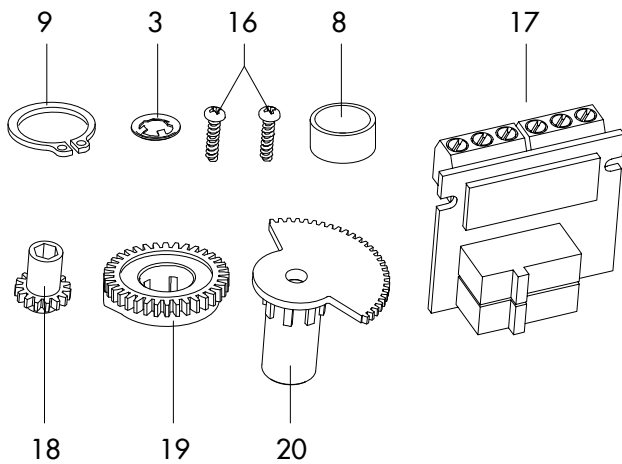

Fig. 19: Mechanical limit contacts · Retrofit kit
- Mechanical limit contacts (see Fig. 19)